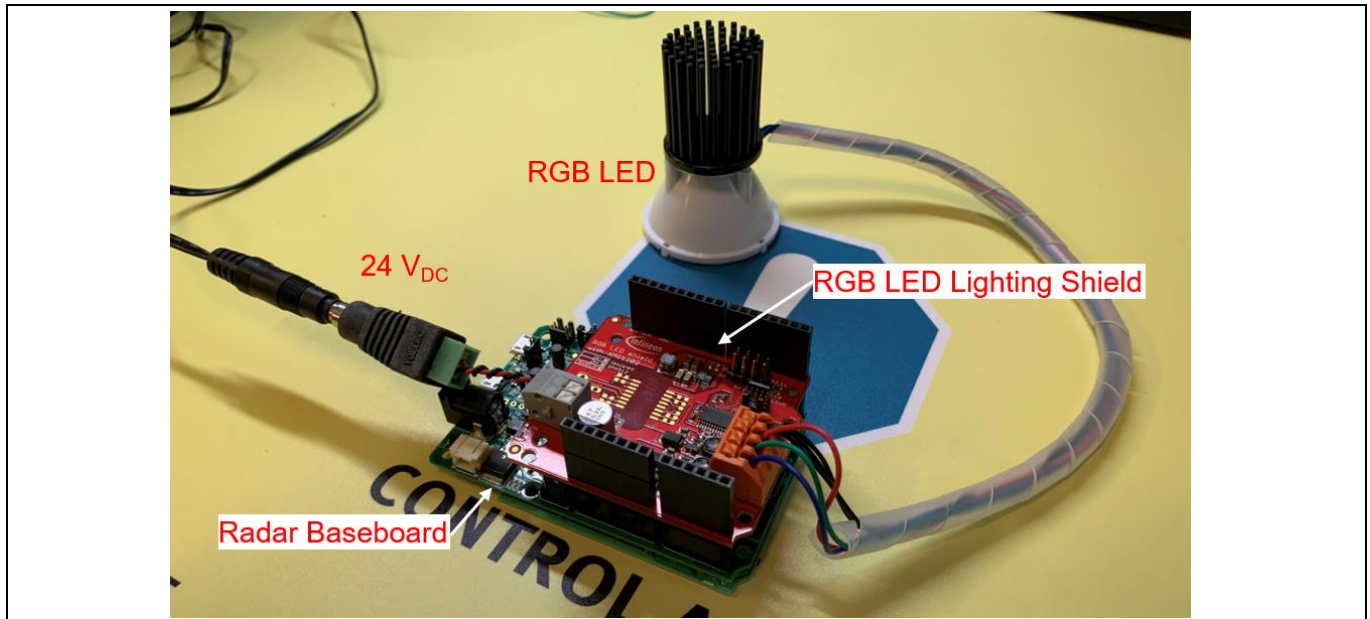

Figure 28 Stacking the RGB LED lighting shield onto the radar baseboard XMC4700
5. Stack the RGB LED lighting shield with XMC1202 onto the radar baseboard XMC4700 via the Arduino stack headers (Figure 28). Also connect an RGB LED and a 24 V DC power adapter to the RGB LED lighting shield. **Do not turn the power on yet!** For more information on setting up of the RGB LED lighting shield, please refer to the User Manual for the RGB LED Lighting Shield with XMC1202 (the link can be found in the References section).